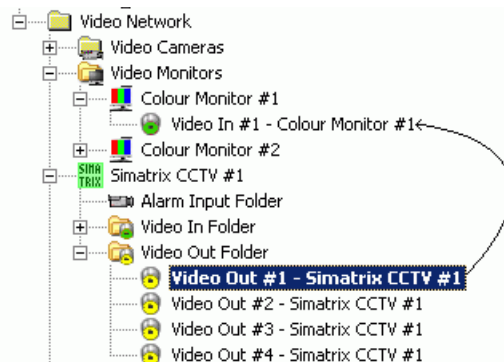

Fig 15 Connecting SIMATRIX to monitors
5. Drag and drop the 'video signal' to the monitor video-in node (Fig 15).